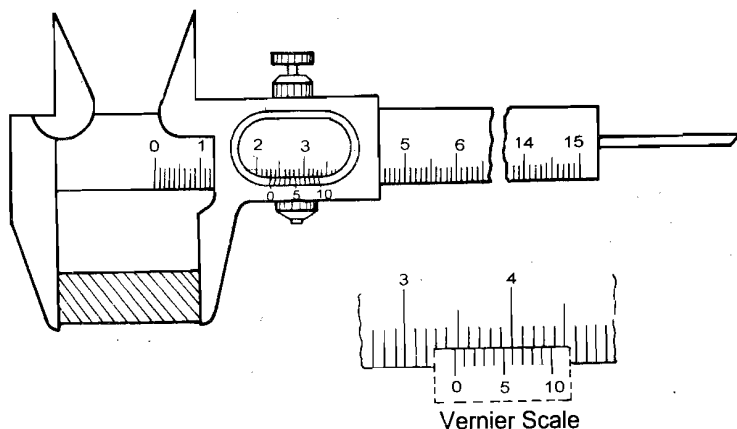

Fig.1.6: Measurement of the thickness of a block with a vernier callipers
Before you perform the actual experiment, it is important for you to be familiar with a vernier callipers (Fig.1.6). In Unit 4 you have learnt about it in detail. You should re-read the relevant section of the unit and do the following activity:
- Hold the block/bob between the jaws, as shown in Fig.1.6.